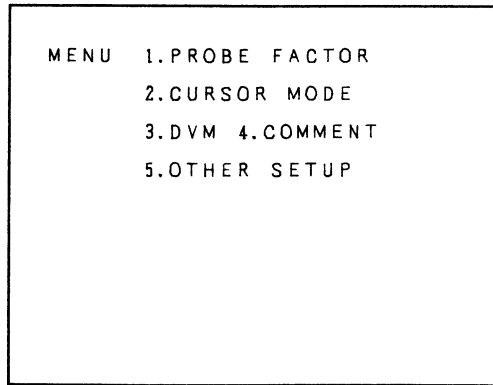

Fig. 8-1
- 1) Set the CURSOR and DLY/COUNTER key to DLY/COUNTER, and push the MENU key. the menu is displayed as shown in Fig. 8-1.